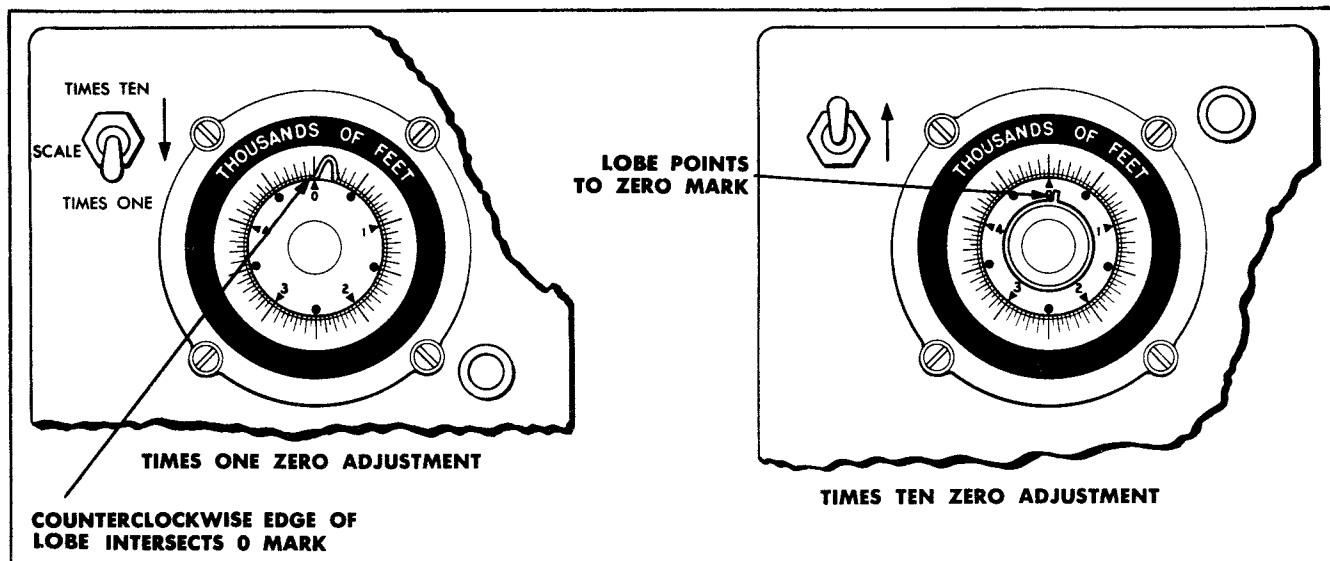

Figure 2-4. Zero Adjustment, Times One - Times Ten
g. Keeping the SCALE switch in the TIMES TEN position, adjust the TIMES TEN ZERO ADJ. control so that the lobe appears exactly at zero on the calibrated scale. (See figure 2-4.)
b. When the wheels are about to leave the ground, adjust the TIMES ONE ZERO ADJ, so that the counterclockwise edge of the lobe is set exactly at zero on the calibrated indicator screen. (See figure 2-4.)